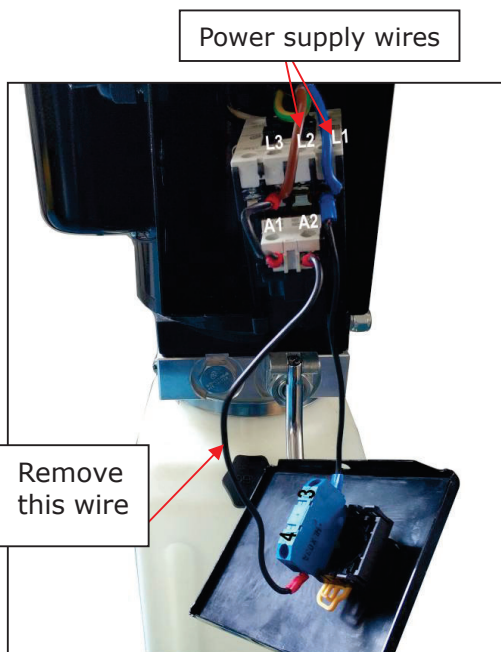
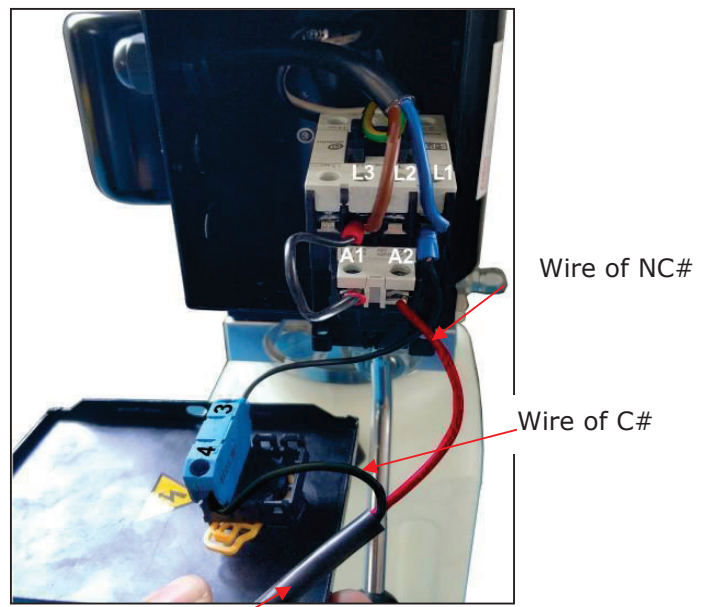

Fig. 42
Fig. 43
- c. Connecting the limit switch: Remove the short wire connecting terminal 4# of control button and A2 of AC contactor firstly (See Fig. 42), then connect wire C#(Black wire) of limit switch with terminal 4# of control button and connecting wire NC#(red wire) with terminals A2 of AC contactor respectively. (See Fig. 43)